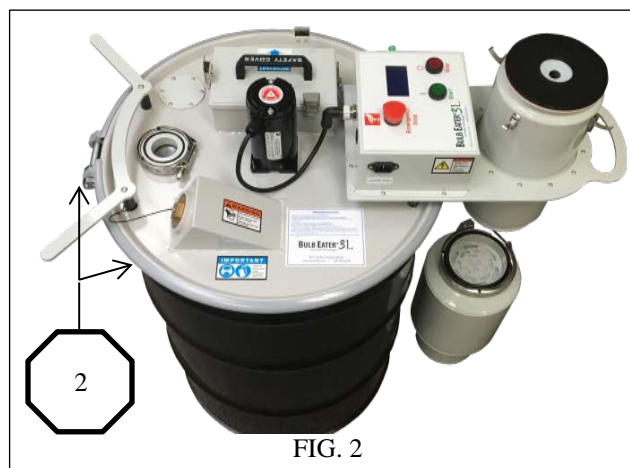

FIG. 2
2. Mount the Bulb Eater® 3 onto the drum, tightening the bolt ring with a 15/16" wrench or socket. **Figure 2**